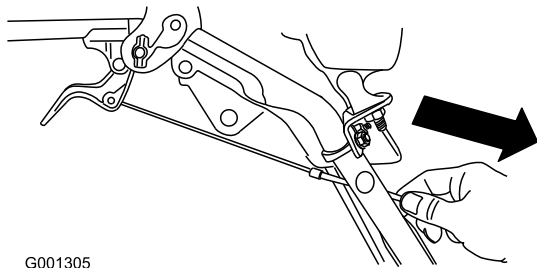

Figure 8
4. Pull the cable jacket down gently until the wheel clutch lever is down and the slack is out of the cable, then tighten the cable clamp nut securely (Figure 8).